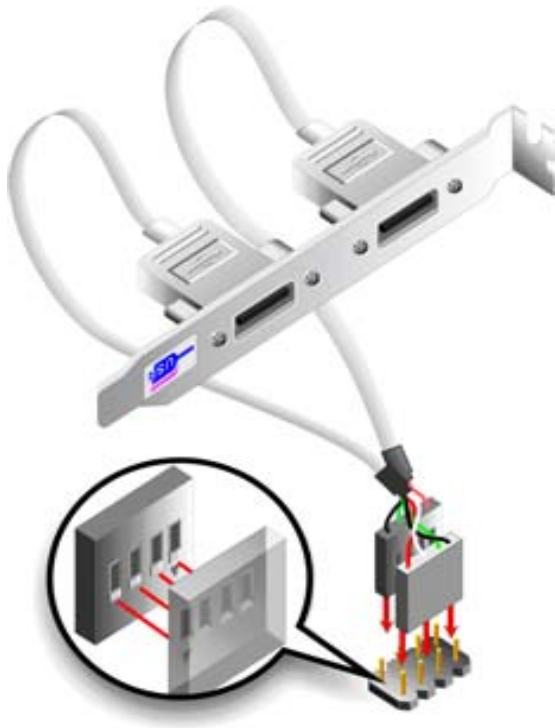

Figure 5-15: Dual USB Cable Connection
**Step 3: Insert the cable connectors.** Once the cable connectors are properly aligned with the USB connectors on the 3307675, connect the cable connectors to the onboard connectors. See **Figure 5-15**.